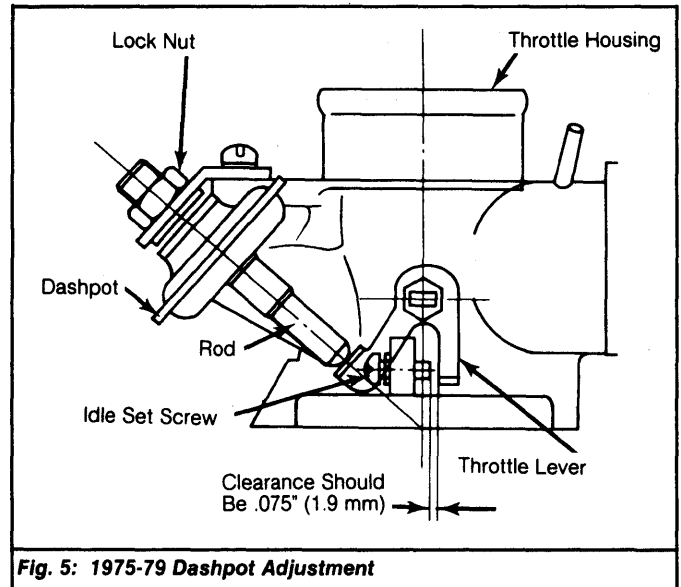

Fig. 5: 1975-79 Dashpot Adjustment
**1975-79 Models** - With engine speed at 2000 RPM, clearance between idle set screw and throttle lever should be .075" (1.9 mm). Check that dashpot rod end touches throttle lever when rod is fully extended (or when no back pressure is present at diaphragm). If necessary, loosen lock nut and turn dashpot until rod just touches throttle lever, then tighten lock nut. See Fig. 5.